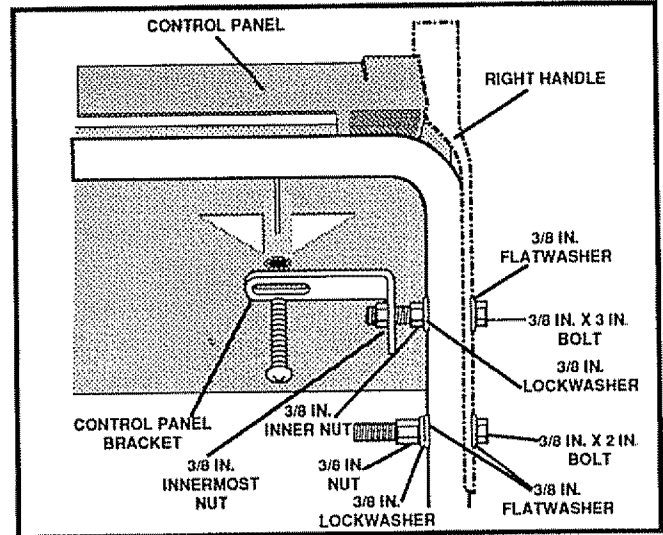

FIG. 4A
- With two 9/16 inch wrenches, loosen (but do not remove) both bolts securing the upper and lower handles by holding the inner nut on the inside of the handle while turning the outside bolt counter-clockwise as shown in Fig. 4A, page 8.
- Hold the inner nut and tighten the outside bolt up against the handle as shown in Fig. 4A, page 8.
- While holding the outside bolt, tighten the innermost nut up against the control panel bracket as shown in Fig. 4A, page 8.
- On the right side of the handle, install and secure the following parts (found in parts box) in the lower handle hole as shown in Fig. 4A: